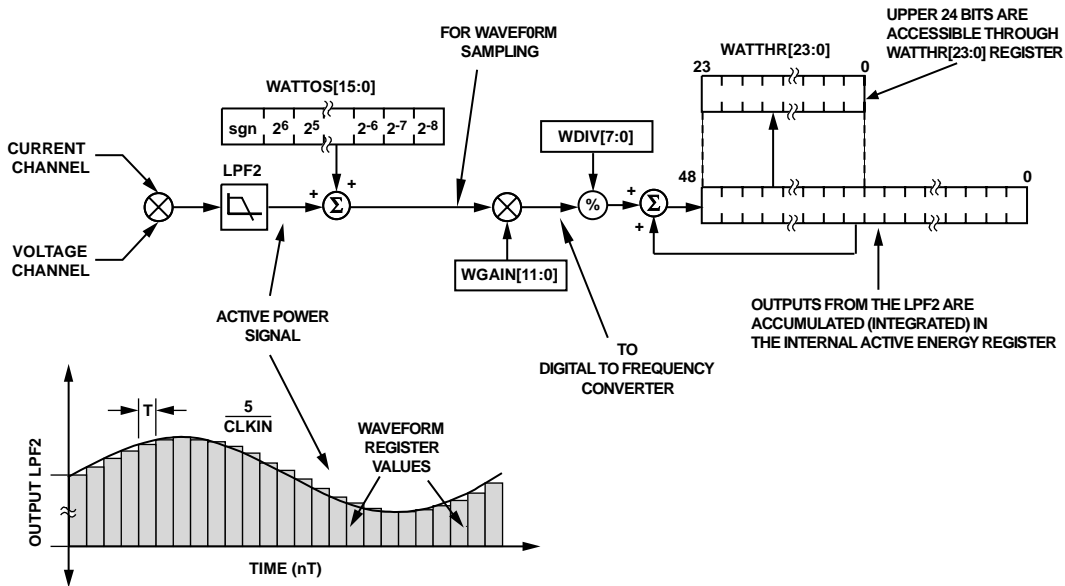

Figure 39. ADE7169F16 Active Energy Calculation
Figure 39 shows the signal processing chain for the active power calculation in the ADE7169F16. As explained, the active power is calculated by low-pass filtering the instantaneous power signal. Note that when reading the waveform samples from the output of LPF2, the gain of the active energy can be adjusted by using the multiplier and watt gain register (WGAIN[11:0]). The gain is adjusted by writing a twos complement 12-bit word to the watt gain register. Equation 11 shows how the gain adjustment is related to the contents of the watt gain register:
The discrete time sample period (T) for the accumulation register in the ADE7169F16 is 1.22µs (5/MCLK). As well as calculating the energy, this integration removes any sinusoidal components that might be in the active power signal. Figure 39 shows this discrete time integration or accumulation. The active power signal in the waveform register is continuously added to the internal active energy register.
The output of the multiplier is divided by WDIV. If the value in the WDIV register is equal to 0, then the internal active energy register is divided by 1. WDIV is an 8-bit unsigned register. After dividing by WDIV, the active energy is accumulated in a 49-bit internal energy accumulation register. The upper 24 bits of this register are accessible through a read to the active energy register (WATTHR[23:0]). A read to the RWATTHR register returns the content of the WATTHR register and the upper 24 bits of the internal register are cleared. As shown in Figure 39, the active power signal is accumulated in an internal 49-bit signed register. The active power signal can be read from the waveform register by setting the WAVMODE register (0x0D) and setting the WFSM bit in the Interrupt Enable Register 3 SFR (MIRQENH, 0xDB). Like the current and voltage channels waveform sampling modes, the waveform data is available at sample rates of 27.9 kSPS, 14 kSPS, 7 kSPS, or 3.5 kSPS.